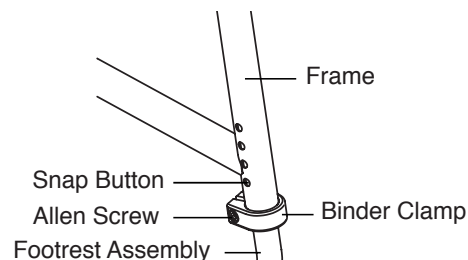

Figure 2
1. Loosen the Allen Screw on the binder clamp. See Figure 2.